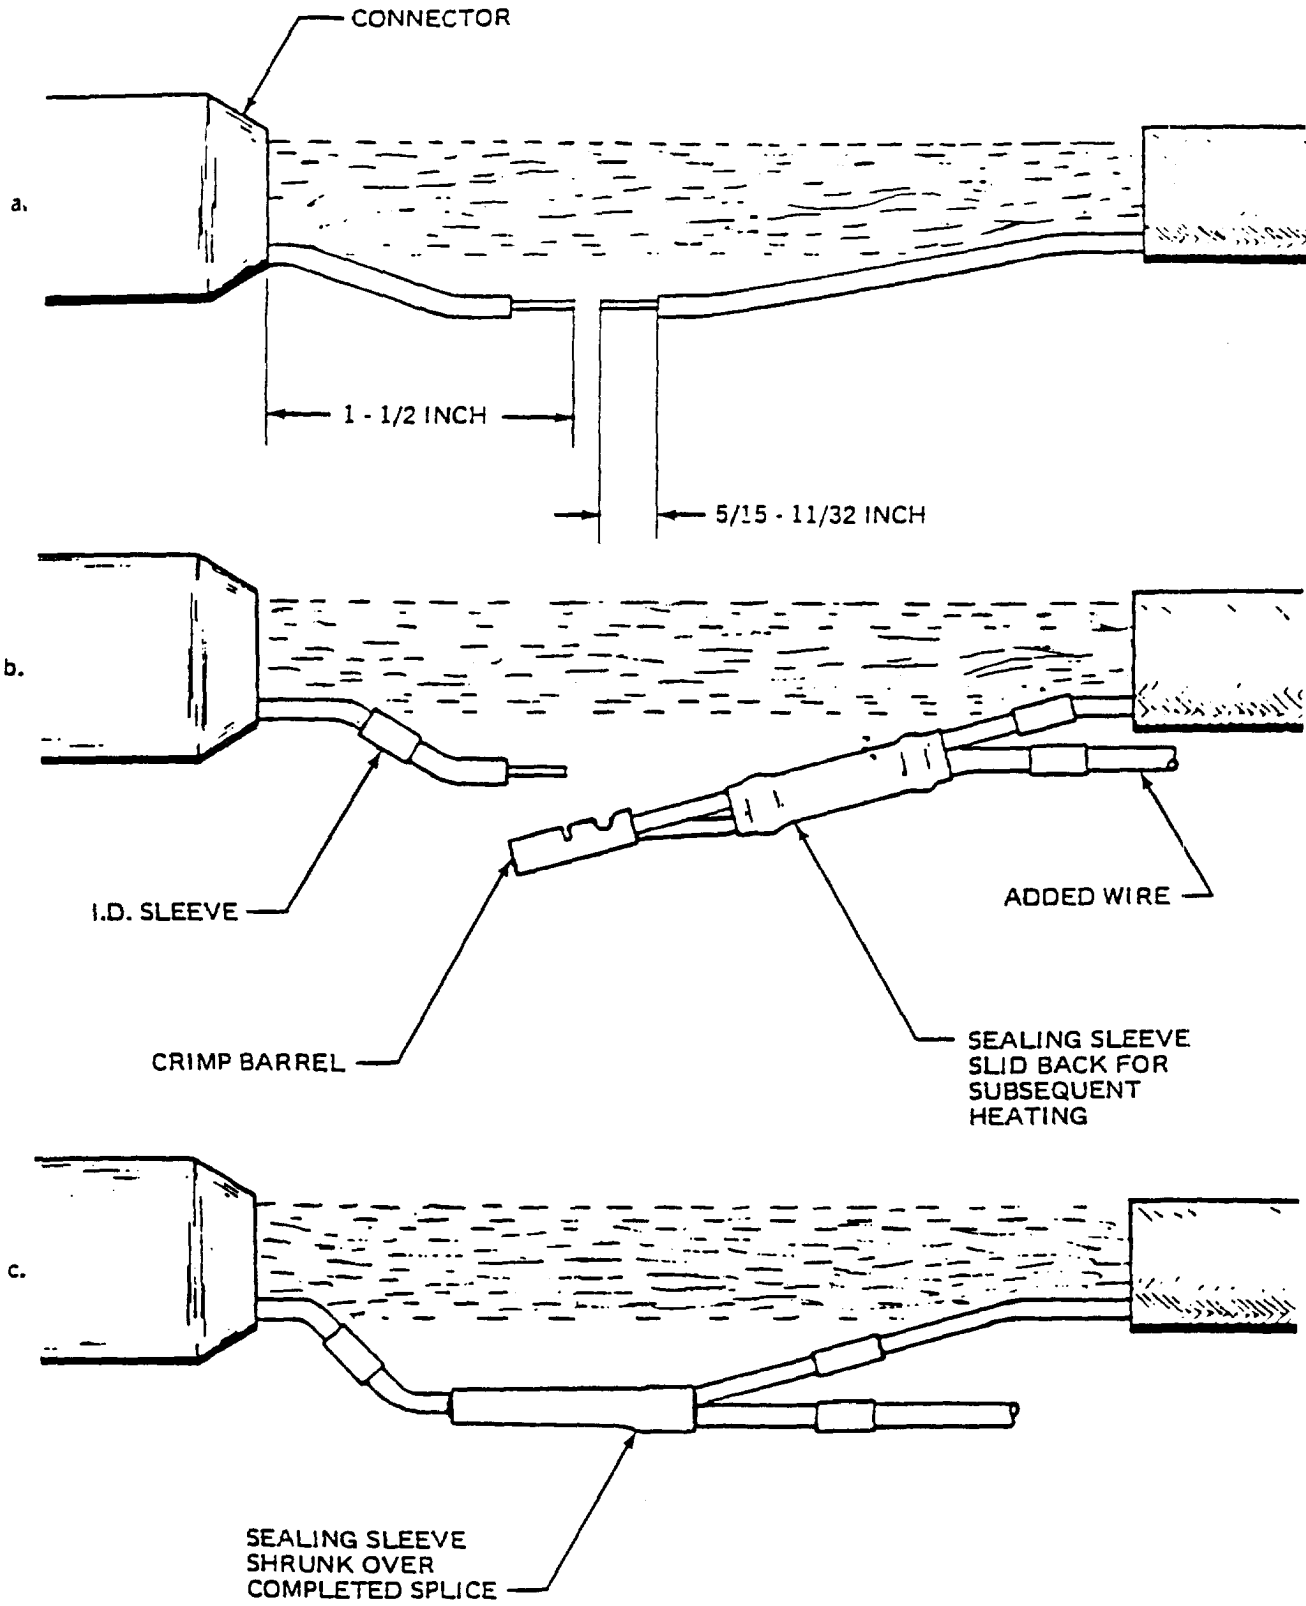

Figure 27. Adding Wire to Existing Wire Using Environmental Seals Splice
d. Cut existing wire 1 1/2 inches from connector potting or connection insert (Figure 27, Detail A).
35. **Adding Wire To Existing Wire.** When it becomes necessary to add a wire to an existing wire in the harness, route added wire parallel and external to the existing harness. Secure added wires to the harness using lacing tape and proceed as follows (Figures 27 and 28).
c. Slip the crimp barrel of the splice over the wires as shown in Figure 27, Detail B. Crimp as specified in WP 013 00.
d. Shrink sleeve over crimp barrel as shown in Figure 27, Detail C.